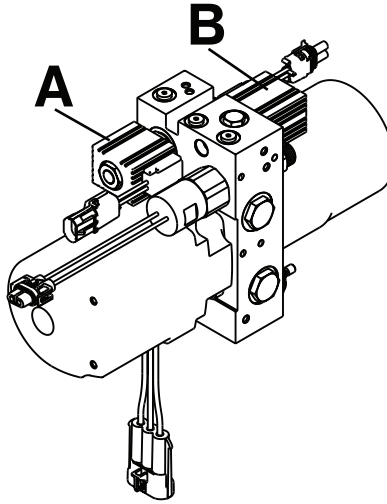

Figure 18: Hydraulic A valve or B valve replacement
5. Using a 3/4" combination wrench, remove the nut that secures the solenoid to the A valve (A) or B valve (B). (Figure 18 on page 51). Save the nut for reinstallation.
7. Using a 7/8" combination wrench, remove the A valve or B valve from the hydraulic subassembly. (Figure 18 on page 51).